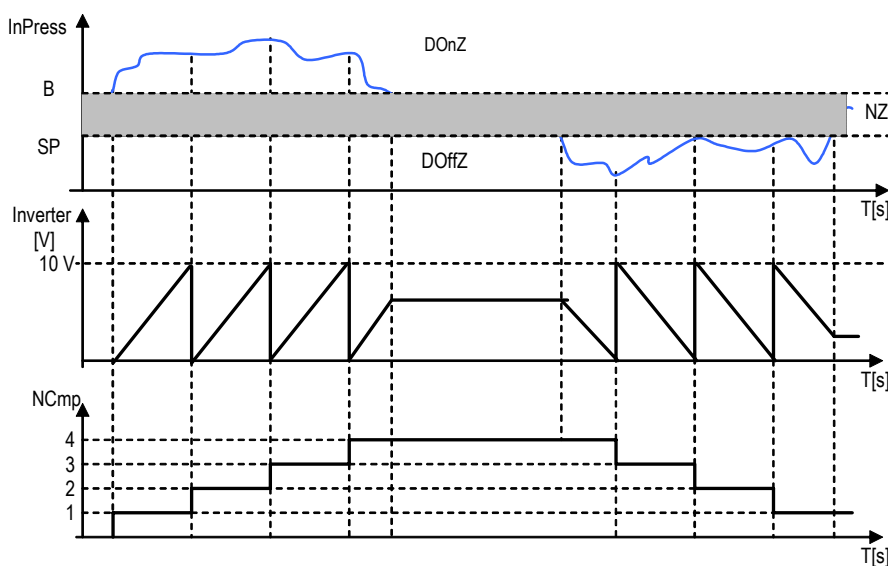

Fig 5.1
**Dead zone control:** The inverter is set on the first compressor, which will always be the first on and the last off. This control requires an offset to be set for the control of the inverter, screen S6, the setpoint (SP) and the inverter ramp time. Three zones are defined: DOnZ on zone, NZ dead zone and DOffZ off zone. Wherein the program behaves differently (see figure 5.1).